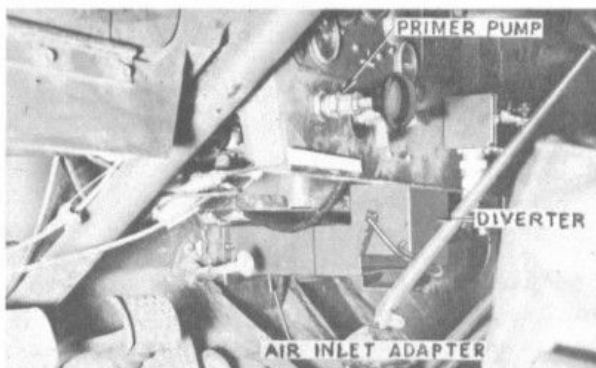

Figure 12
1. Fit the diverter assembly over the inlet of the defroster and also over the air inlet adapter previously attached to the firewall (Figure 12). Place the metal back-up strip, which has the two speed nuts, on the lower lip of the instrument panel and slide it into position so that the nuts are in line with the holes which were used for the discarded bracket. Install the two $\frac{5}{16}$ -18 x $\frac{3}{4}$ Hex. Hd. cap screws through the flange of the diverter and into the speed